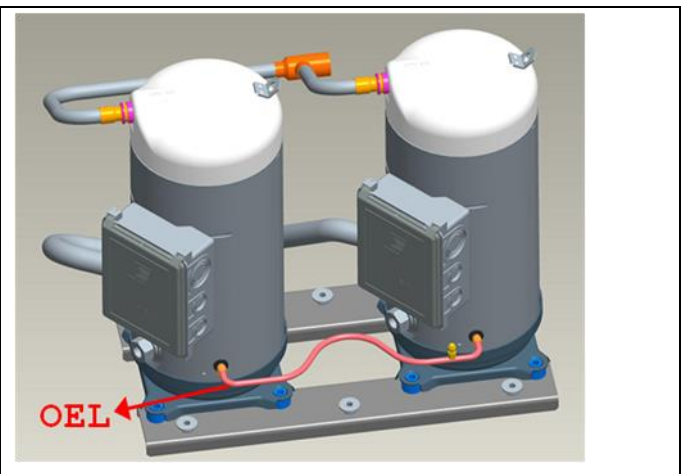

Figure 2: Tandem with 3 tubes design (OEL)
- **OEL – Oil Equalization Line (Fig.2):** By centring the OEL on the oil level line allowing for the free flow of oil between compressors. No gas balancing is intended.